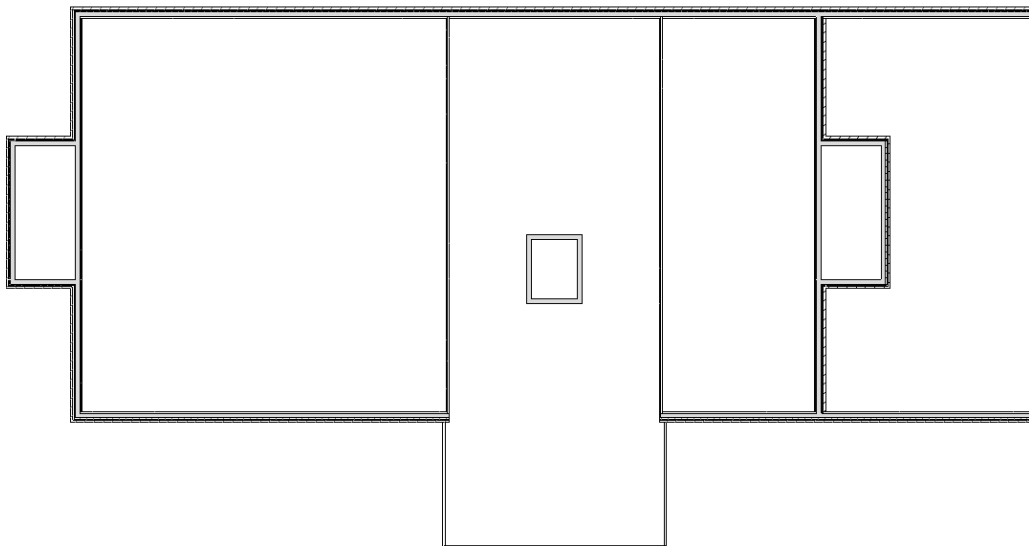

Figure 3-3.10 Mirror west stair – step 2
25. Use the **Move** tool to reposition the mirrored walls; they should be selected by default (Figure 3-3.10).